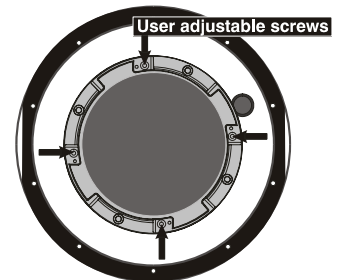
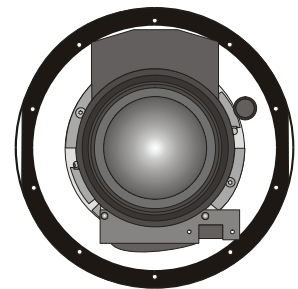

Figure 4.9. Adjustable Screws on Retaining Ring
Figure 4.10. View with Zoom Lens installed
- **Secure lock-down screws (optional):** For added stability, secure the adjustment screws provided on the lens-retaining ring (see Figure 4.9). If you have installed a large zoom lens, one or more of the screws may be inaccessible—simply tighten those that are accessible (Figure 4.10).